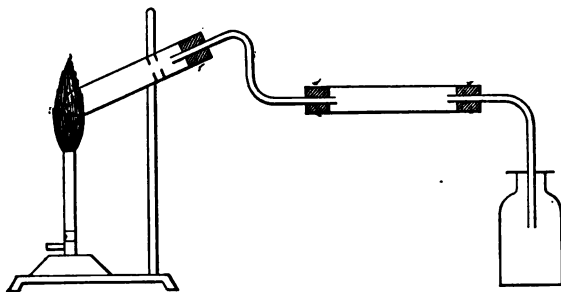

Fig. 14.
2. If a black solid remains, place it in a hard glass tube, connected at one end with an oxygen generator and at the other with a bottle of lime-water. (See Fig. 14.) Heat the tube strongly, then pass oxygen through it as long as any black solid remains.